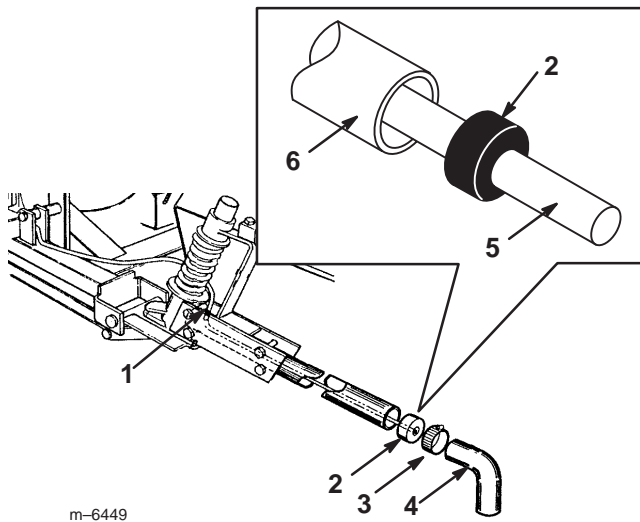

Figure 14
6. Insert the boom hose into the hole drilled in the right boom pipe and push it into the boom pipe until **2 to 3 inches** of boom hose **extends beyond** the opposite end of the boom pipe (Fig. 14).
7. Push the boom hose through the punched hole boom cap until it **extends 2 to 3 inches past the cap** (Fig. 14).
8. Install the boom cap into the end of the boom pipe (Fig. 14).
9. Lubricate the inside of the extension hose and slide it over the cap and boom hose and onto the boom pipe (Fig. 14).
10. Secure the extension hose onto the boom pipe with a large hose clamp (Fig. 14).